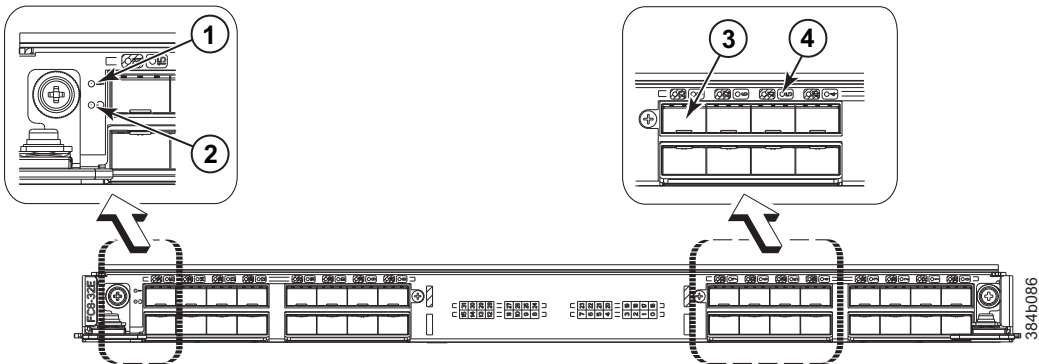

Figure 24. FC8-32E port blade
- Figure 24 on page 60 illustrates the FC8-32E port blade